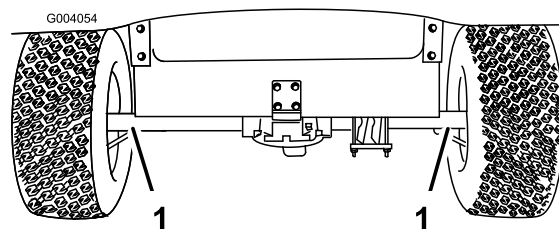
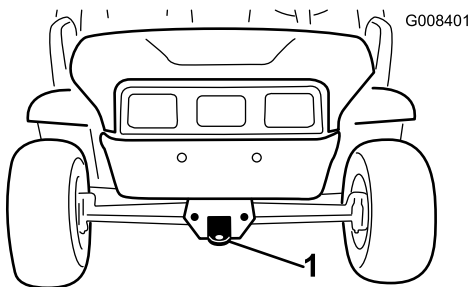

Figure 21
Figure 22
For moving the vehicle long distances, a trailer should be used. Make sure that the vehicle is secured to the trailer. Refer to Figure 21 and Figure 22 for the location of the tie-down points.
2. Affix a tow line to the tongue on the front of the frame (Figure 22).